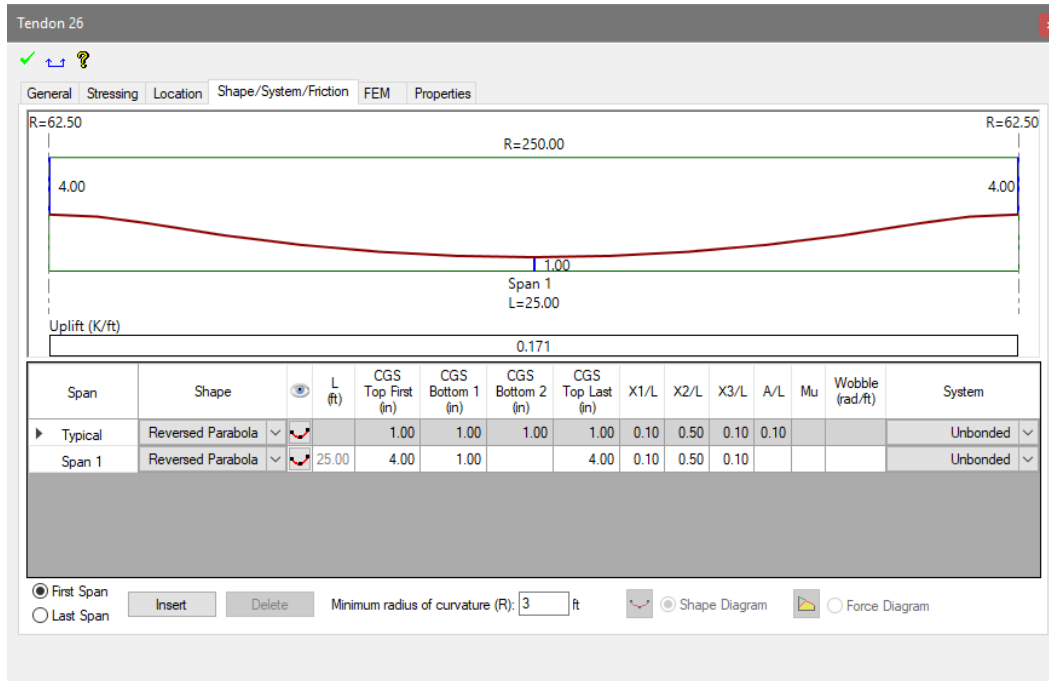

Figure 8-29
- In the *Stressing* tab we will accept the default values as they match the values from our design criteria. **Left-click** on the *Shape/System/Friction* tab. The user should now see the same view as shown in **FIGURE 8-29**.